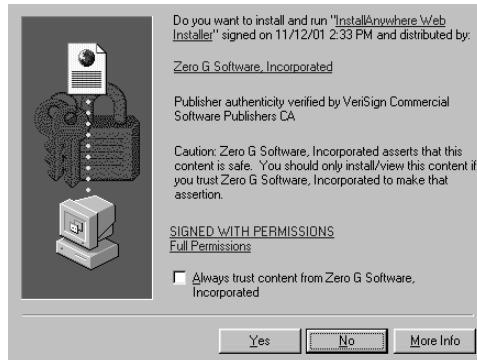

Figure 96: Security Warning page
3. On the page, click **Begin Solaris Installation** to begin the installation process. A security warning page prompts you to install the InstallAnywhere Web Installer (Figure 96).